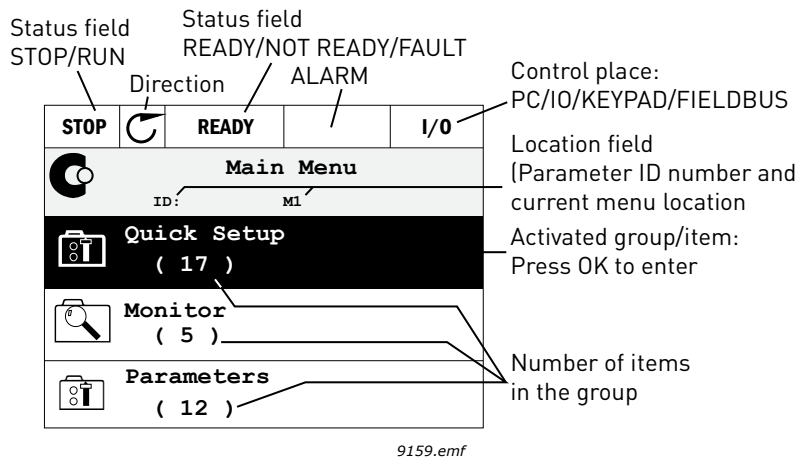

Figure 3. Main menu
**The Location field indicates your current location. The Status field gives information about the present status of the drive.** See Figure 3.